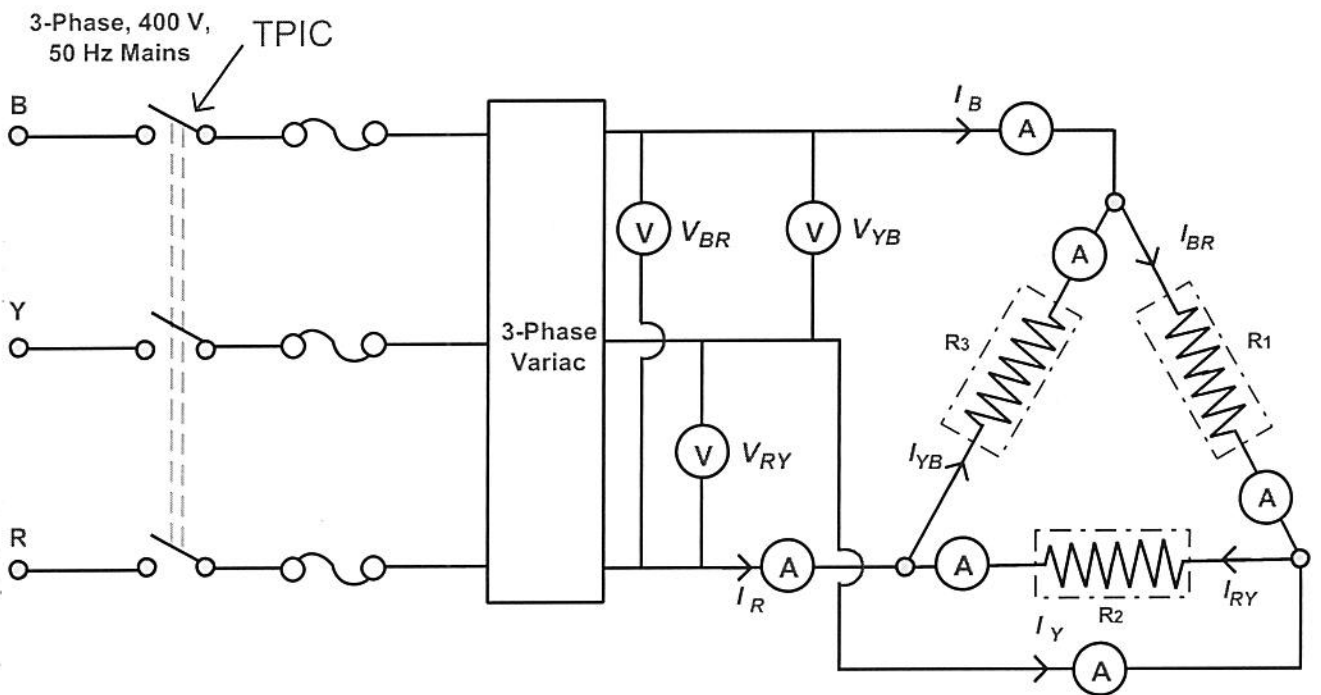

Fig : 7.4 Circuit Diagram Of 3-Phase Supply and Delta Connected Load
- 1) Make the circuit connection as shown in Fig.7.4